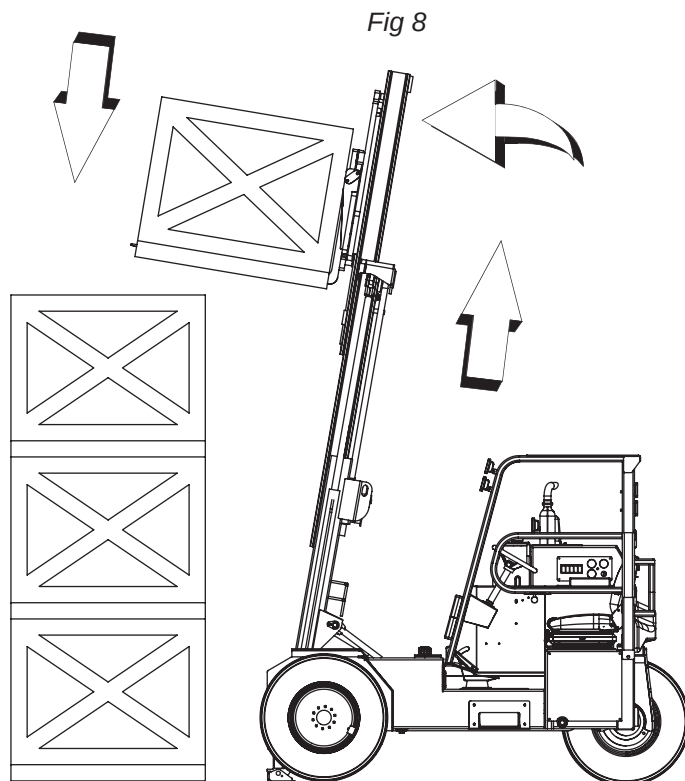

Fig 8
2. Raise the load high enough to clear the stack or platform. Align the forks to the correct angle and height for load placement. Extend the mast forward slowly making adjustments as needed, until the load is properly aligned. Lower the load into a stable position. *Fig 8.*